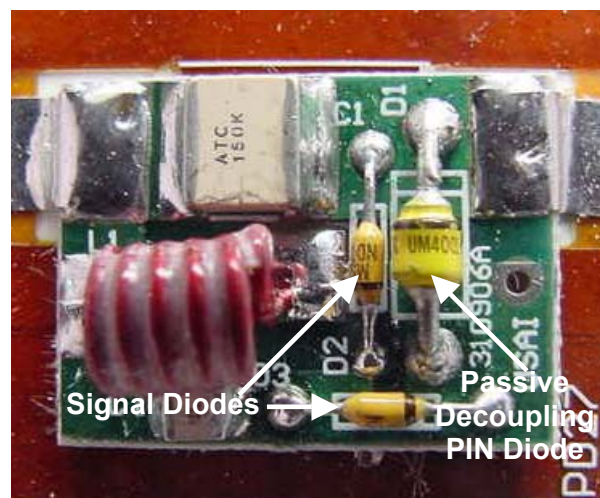

Figure 18: Location of the pin diode and signal diodes on the passive decoupling board.
Step 3 – Check the passive PIN diode and two signal diodes located on the passive decoupling board with a DVM (see *Figure 18*).